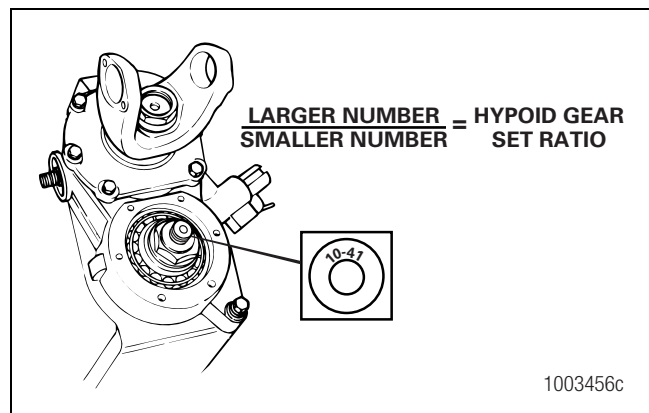

Figure 4.18
2. Look into the carrier housing. Identify and record the gear set teeth numbers stamped on the drive pinion end. Figure 4.18.
3. Calculate the hypoid gear set ratio by dividing the larger number by the smaller number. Figure 4.18.